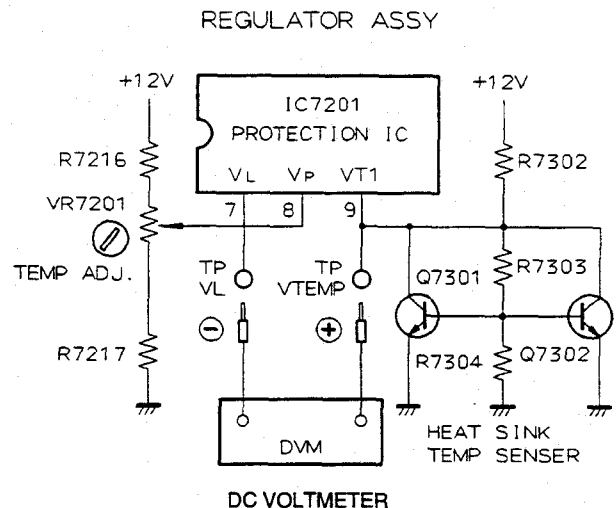

Fig. 5-4 Adjustment of Operating Temperature Setting of Fan Motor
- (1) Connect a voltmeter between VTEMP and VL (or between IC7201 terminals No.9 and 7). (Refer to Fig. 5-4.)
- (2) Determine the fan motor operating temperature setting by means of the following formula. (Tolerance is within $\pm 30\text{mV}$.)